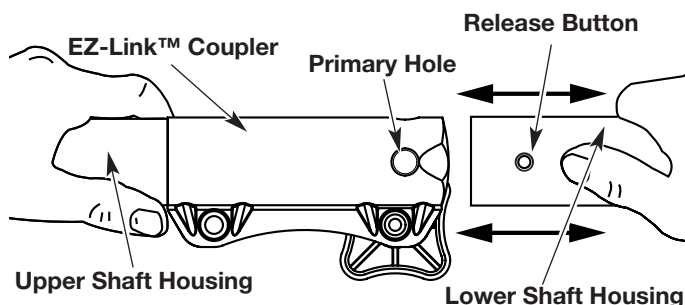

Fig. 24
- While firmly holding the add-on, push it straight into the EZ-Link™ coupler (Fig. 24).
- While firmly holding the upper shaft housing, pull the cutting attachment or add-on straight out of the EZ-Link™ coupler (Fig. 24).